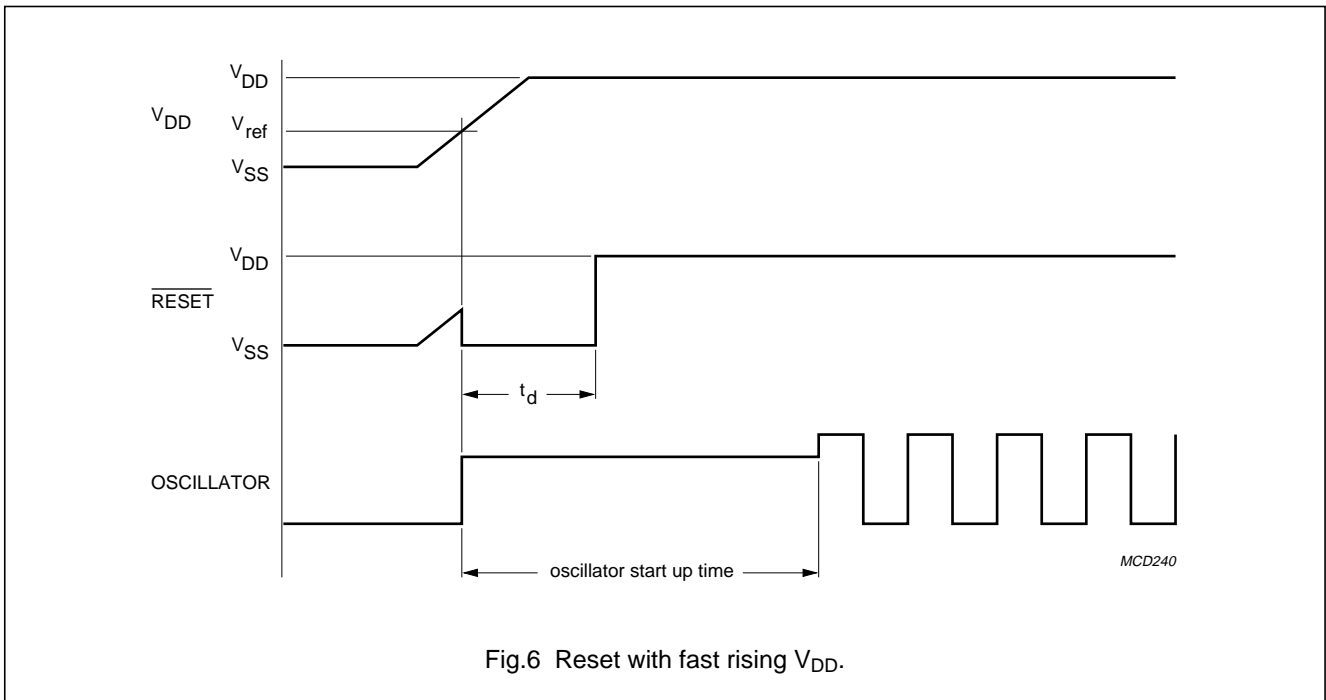

Fig.6 Reset with fast rising V_{DD} .
- If the V_{DD} rises above the minimum operation voltage before time period t_d is exceeded, no external components are necessary (see Fig.6).